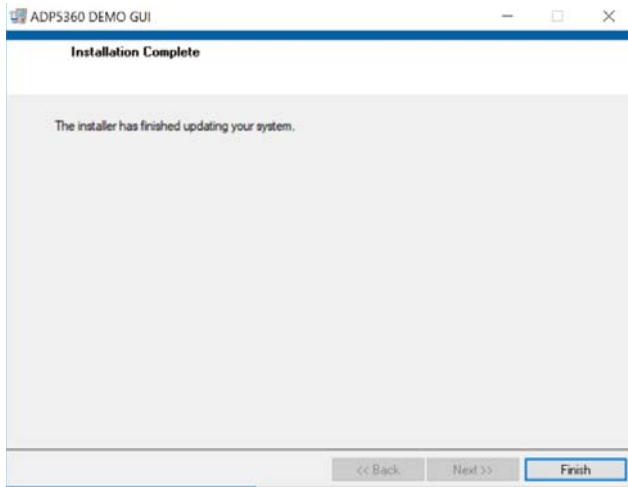

Figure 5. Installation Complete
- Click the **Finish** button to complete the installation, and the window in Figure 5 then appears.